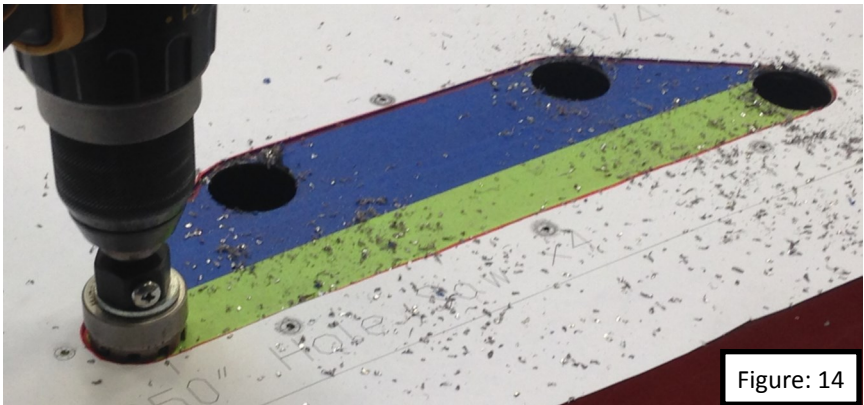

Figure: 14
18. Open up the four (4) holes located in the interior of the vent. Use the 1-1/4" hole saw for this operation. Figure: 14